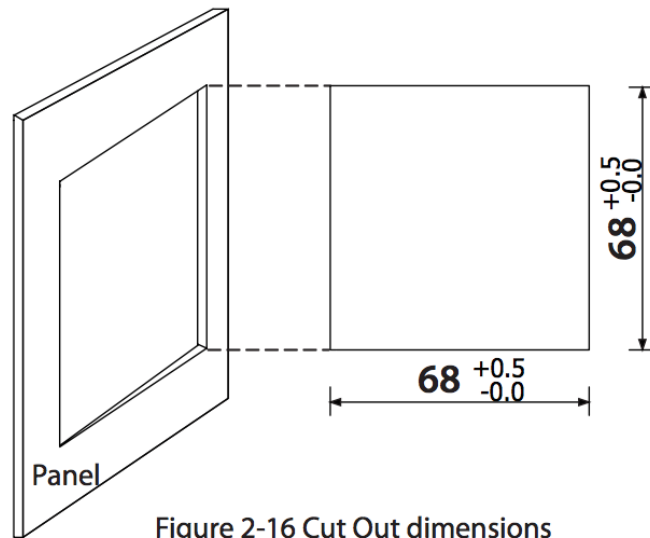

Figure 2-16 Cut Out dimensions
- 1) Firstly, make a standard panel Cut Out as the Figure 2-16 shows. Unit: mm.